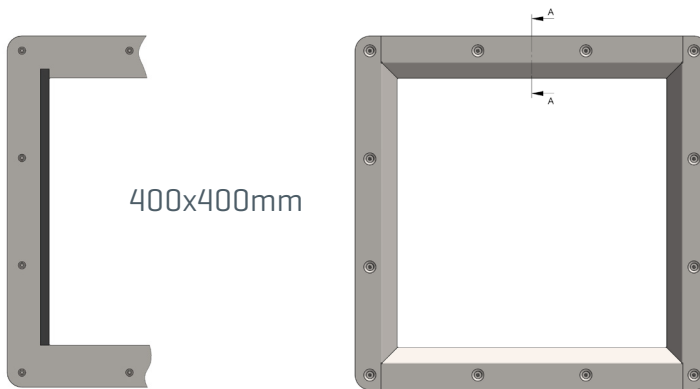

Fig. 1.
4. Clean the surface of the surround with a degreaser, remove the adhesive backing from the grey intumescent and apply round the inner face of each surround. When applying the first strip, make intumescent flush with inner face, this should mean there is a 10mm overlap at the other end [Fig. 1.]. This should allow for the next intumescent to butt up against it [Fig. 2.]. When all 4 are applied to each piece, a continuous line of intumescent rounds the entire inner face of the surround should be seen.